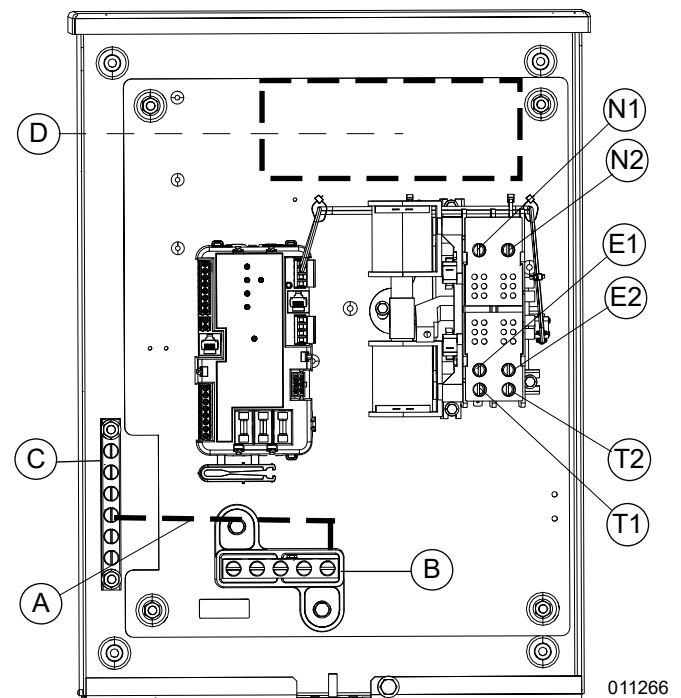

Figure 3-3. Wiring Connections 100 A Unit
NOTE: 100 A service entrance rated model will have a service disconnect in area (D) of Figure 3-3.